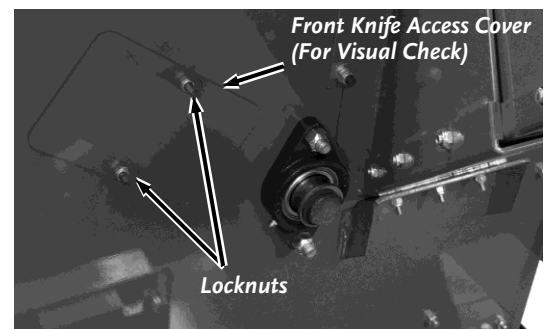

Figure 36
1. Loosen the Locknuts that secure the Front Access Cover (**Figure 36**). Move the Cover over to align the larger portion of the hole with the Locknuts and remove the Cover.